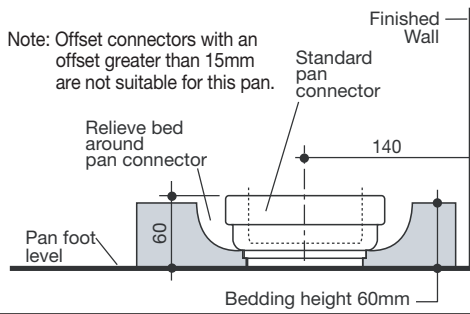

Fig. 1
The 'S' and 'P'-Trap pan installations are detailed in Fig. 1 & 2. The recommended set-out for 'S'-Trap installations is 140mm from the finished wall. It is important to position the pan collar 60mm Max. from the foot level of pan as detailed in Fig. 1.
- 3- Prepare bedding sand cement mixture 3:1 to depth of 60mm as detailed in Fig.1.